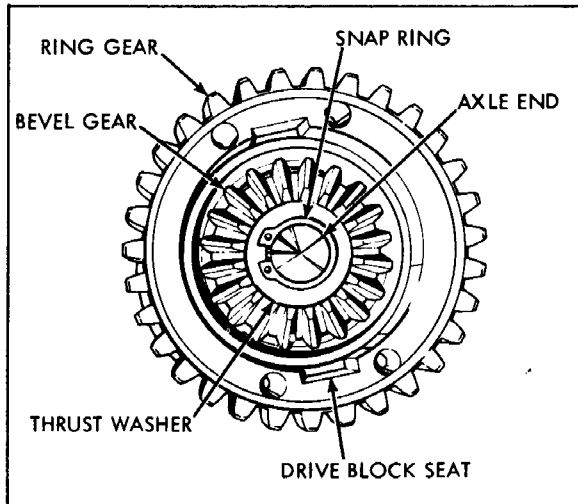

Figure 4-5
3. Remove the snap ring and the thrust washer, if used. Separate the bevel gear and differential carrier from the axle. (Figure 4-5)